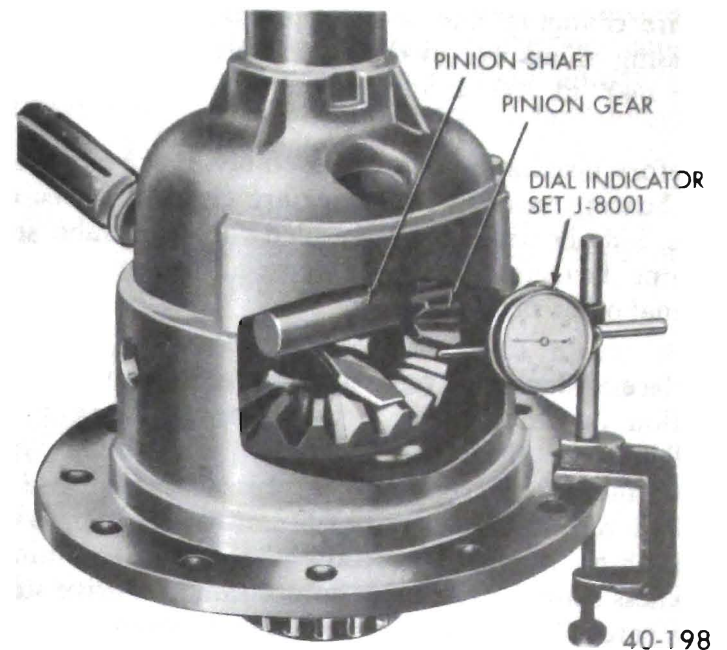

Figure 40-139 Checking Side Gear to Pinion Gear Backlash
a. Compress one clutch pack by inserting screwdriver or wedge between the cross shaft and side gear. See Figure 40-139.